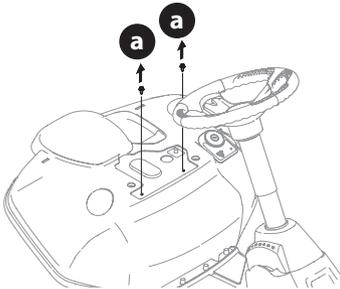

Figure 5
2. Remove the two self-tapping bolts (a) factory installed on the riding mower (Figure 5).